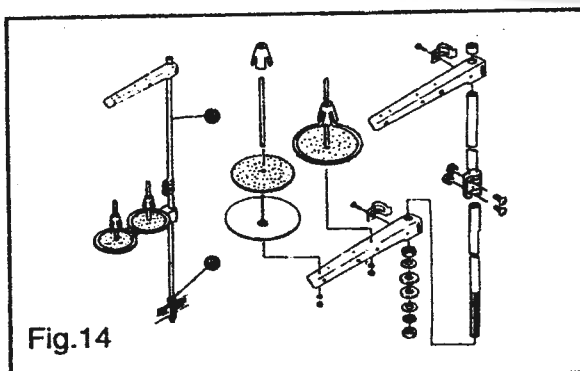

Fig.14
11.INSTALLING THE THREAD STAND(Fig.14)